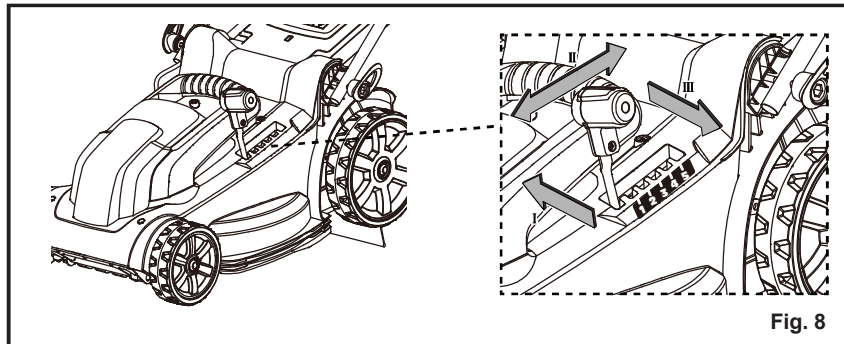

Fig. 8
ADJUSTING THE CUTTING HEIGHT (See Fig. 8)
- To raise the cutting height, grasp the cutting height adjustment lever and move it toward the back of the mower (Fig. 8).
- To lower the cutting height, grasp the cutting height adjustment lever and move it toward the front of the mower (Fig. 8).